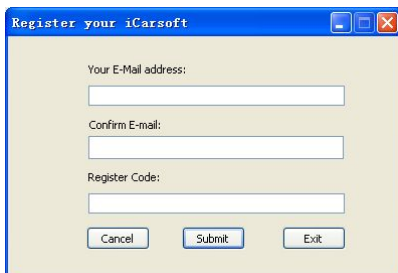

Figure 5-2
3. After the Serial Number is entered, click [Update] to enter Figure 5-2. Input your Email address and Register Code and then click [Submit].